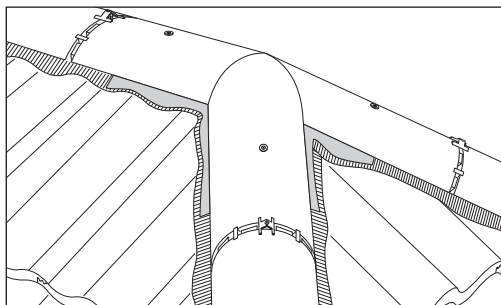
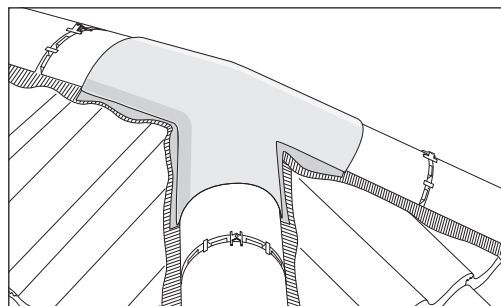

Fig 14 Weathering of hip/ridge junction with soaker
Fig 15 Weathering of hip/ridge junction with flashing
- 14 The HipFast Apex Soaker can be used as either a soaker or flashing. As a soaker, it is adhered directly to the HipRoll/RidgeRoll to weather the hip apex junction, and trimmed to suit (Fig 14). As a flashing, it is fitted over the apex tiles and trimmed to the base of the tile edges (Fig 15).
When using flat tiles or slates, the Fillers are trapped between the RidgeRoll and the bottom edges of the ridge tile, with the deeper end toward the hip. With profiled tiles, a 500mm length of HipFast Support Tray must be nailed centrally to the ridge batten through the RidgeRoll to act as a bearer for the Tapered Fillers and end ridge tile (Fig 15).